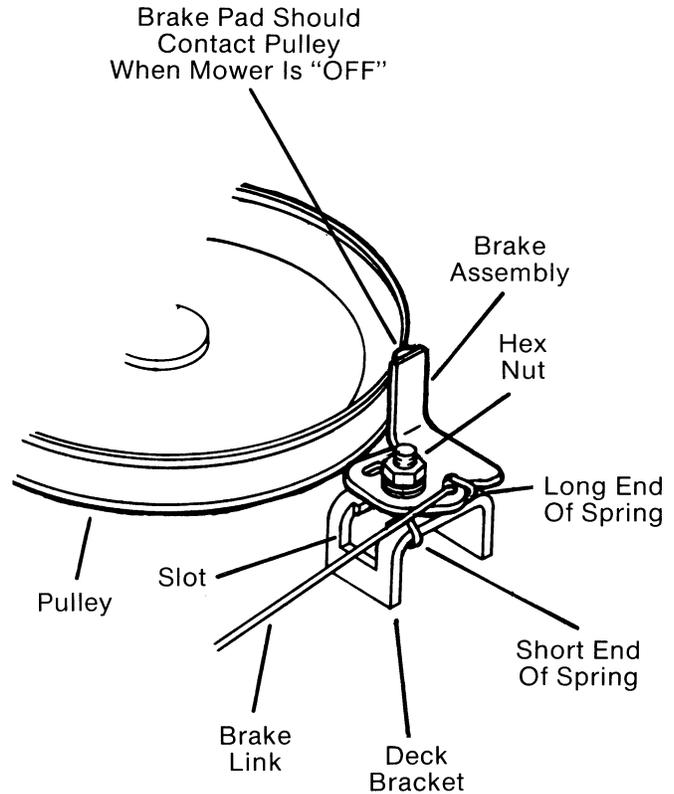

FIG. 3
- b. Turn the clutch rod arm clockwise again and check brake pad position. Pads should be resting firmly on the edges of the pulleys. (Fig. 3) Brake links (Fig. 3) should have $1/16'' - 1/8''$ slack movement, if brakes are adjusted properly. If brake links are too loose or too tight, readjust brake pads by following procedures under "MOWER BLADE BRAKE ADJUSTMENT"